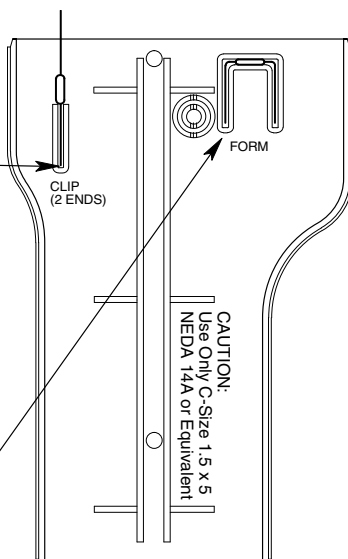

Figure 6. Cutting and Bending Resistor Leads using Forms Molded into Battery Cover
5. Locate new sensor's matching resistor; then cut and bend the resistor leads using the forms that are molded into the battery cover (Fig 6). *Note that If the resistor leads are cut too short, the instrument may not function.*